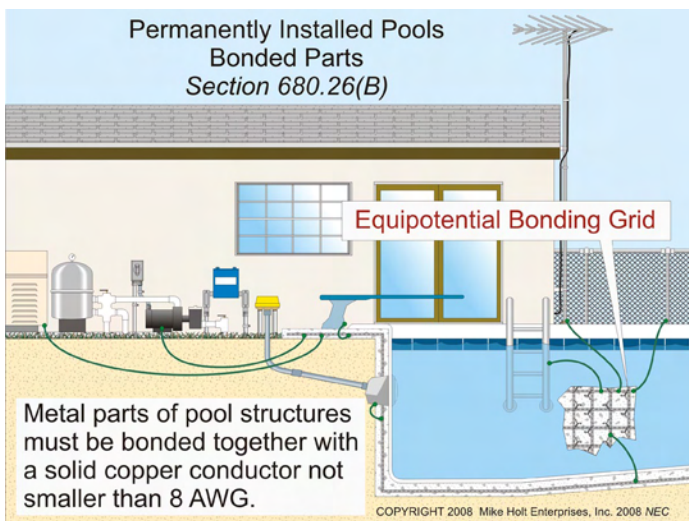

Figure 680–28
(B) Bonded Parts. The parts of a permanently installed pool, outdoor spa, or outdoor hot tub listed in (B)(1) through (B)(7) must be bonded together with a solid copper conductor not smaller than 8 AWG with listed pressure connectors, terminal bars, exothermic welding, or other listed means [250.8(A)]. **Figure 680–28**